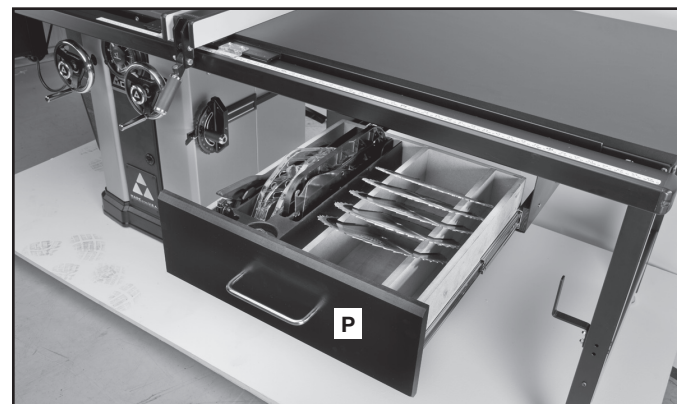

FIG. 7C
The drawer (P) Fig. 7C can hold several blades and many of the accessories that come with your Unisaw.